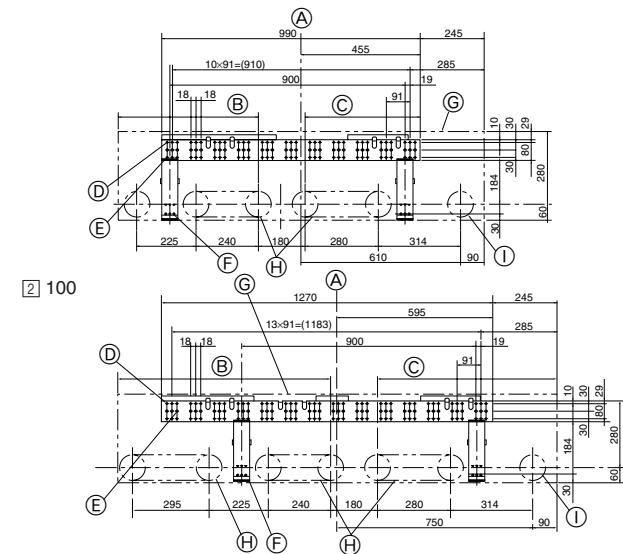

Fig. 3-2
3.2. Installing the wall mounting fixture (Fig. 3-2)